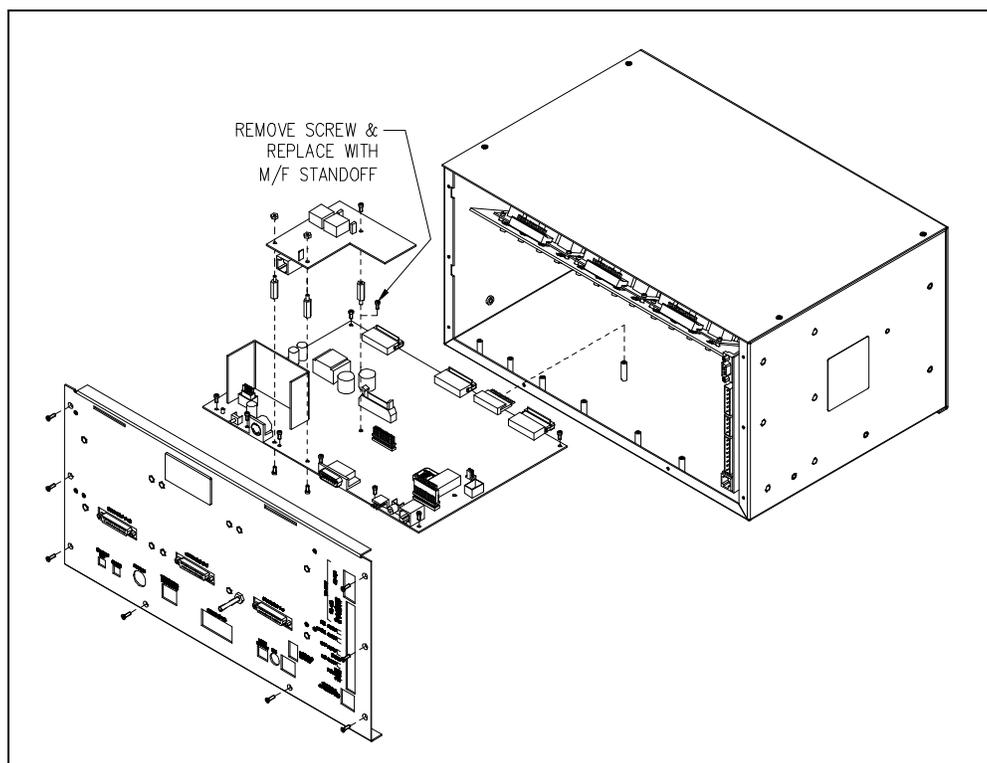

Figure 3.
2. Remove the 8 screws securing the rear panel. Gently pull the rear cover from the housing and disconnect the ribbon cables (SLV-CBL-P) attached to the surge suppression PCBA. Lay the rear panel flat. See Figure 3. (Do not install the phone PCBA at this point.)
5. Remove the screw in the center of the main control PCBA. Screw in one of the supplied #4-40 male/female standoffs. See Figure 3.
6. Attach the remaining two standoffs in the two open holes highlighted by circles on the main control PCBA. Place the threaded side through the holes and attach the supplied #4-40 nuts to the underside. See Figure 3.
7. Place the CTH PCBA on the standoffs and attach with the supplied #4-40 screws. The J13 connector plugs into the P13 connector on the main control PCBA. See Figure 3.